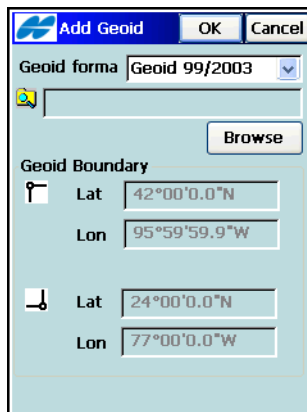

Figure 4-92. Geoid Parameters
2. On the **Add Geoid** screen (Figure 4-92), select a Geoid file from the controller directory to view the boundaries of the geoid application. Select either *Geoid 99/2003*, *Australian*, *Canadian 2000*, *Canadian 95*, *Geoid File Format*, *Mexico 97*, *Sweden*, *Denmark*, *Dutch2004 Files*, or *Norwegian Files*.